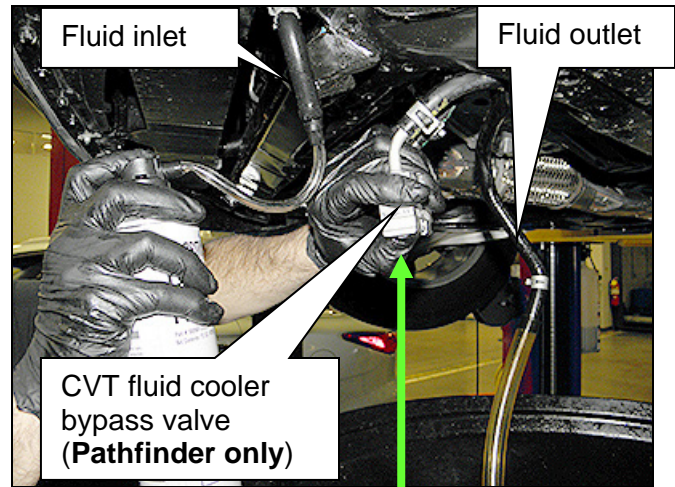

Figure 3
8. Insert the “extension adapter hose”, from a can of Transmission Cooler Cleaner (Nissan P/N 999MP-AM006P), into one or the other of the disconnected CVT fluid cooler hoses (Figure 3).
- For Pathfinder, block the CVT fluid cooler bypass valve fluid passage (Figure 3) with thumb.
- For Pathfinder block the CVT fluid cooler bypass valve fluid passage (Figure 3) with thumb.
14. Now reverse the direction that the hoses are being flushed (Figure 3) and repeat steps 8 through 12 twice.